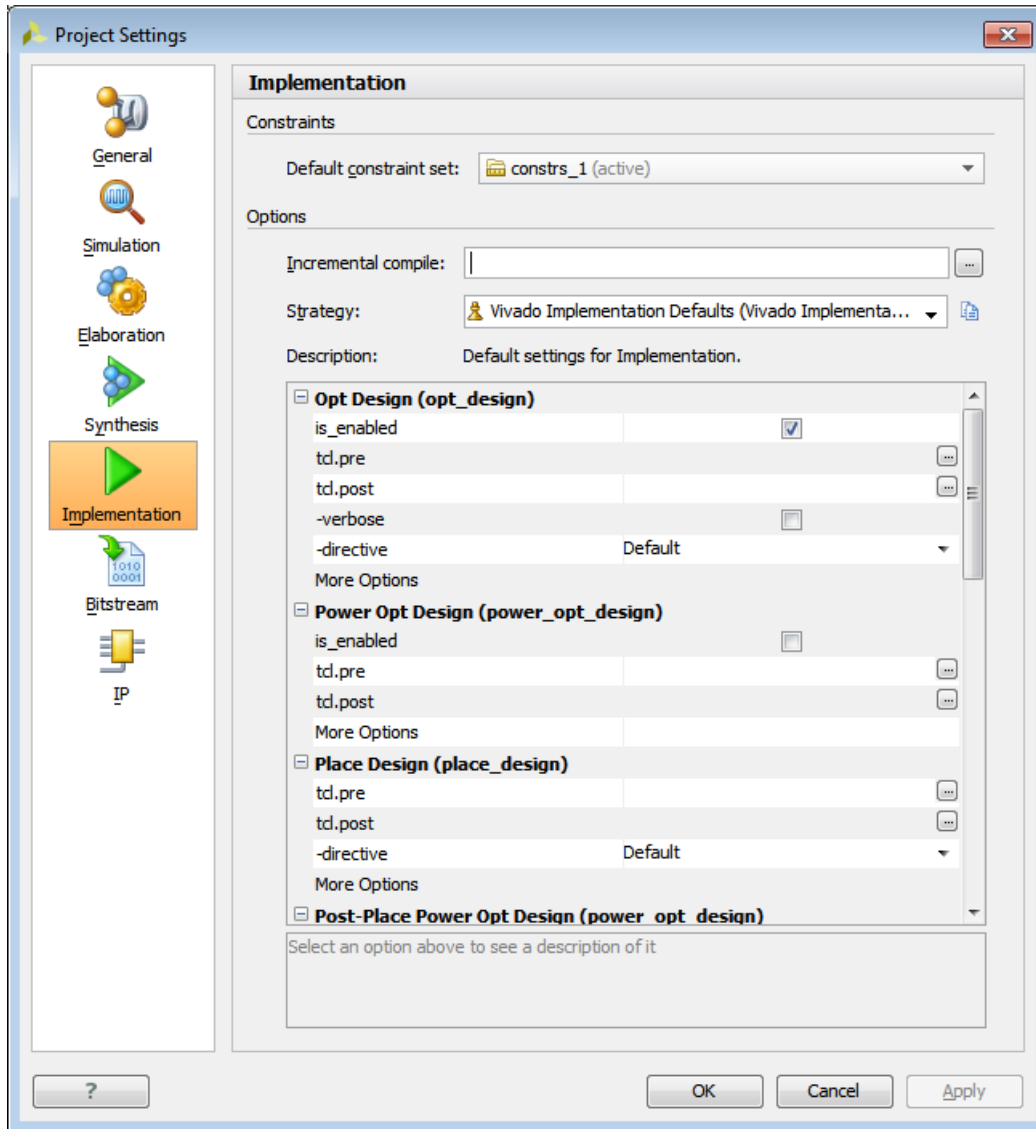

Figure 23: Implementation Settings
- After reviewing the various synthesis options, select the **Implementation** button on the left side of the Project Settings dialog box, as shown in Figure 23.